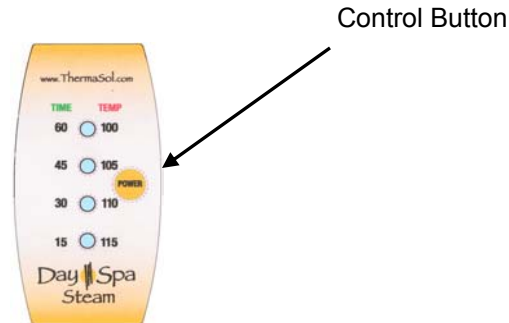

Figure 7
- 1. Starting Your Steam Bath.** Press the "Control Button" momentarily to activate your steam bath session. Your control will come from the factor with a default setting of 60 minutes at 100°F (to change these settings move to steps 2 and 3) once the button is pressed you will see a green LED appear indicating the time to be set, four seconds will pass and a red LED will appear indicating the temperature to be set. **(Figure 7)**